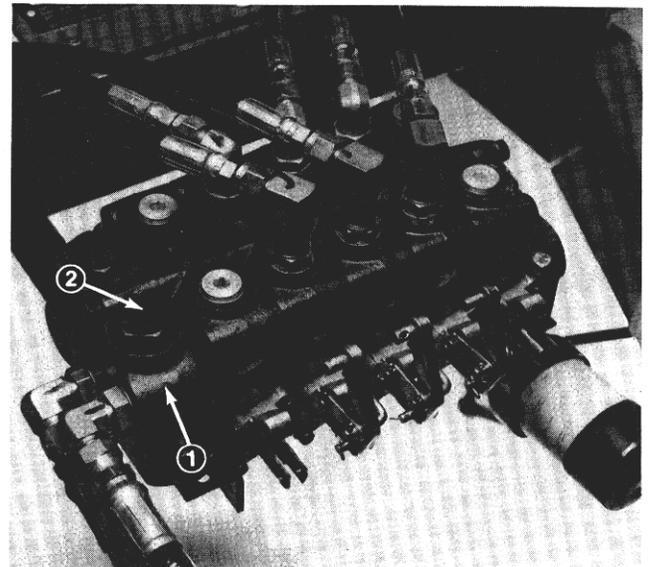

Figure 2
6. Carefully remove the (4) plugs from the top of the two outboard valve sections (Fig. 2).